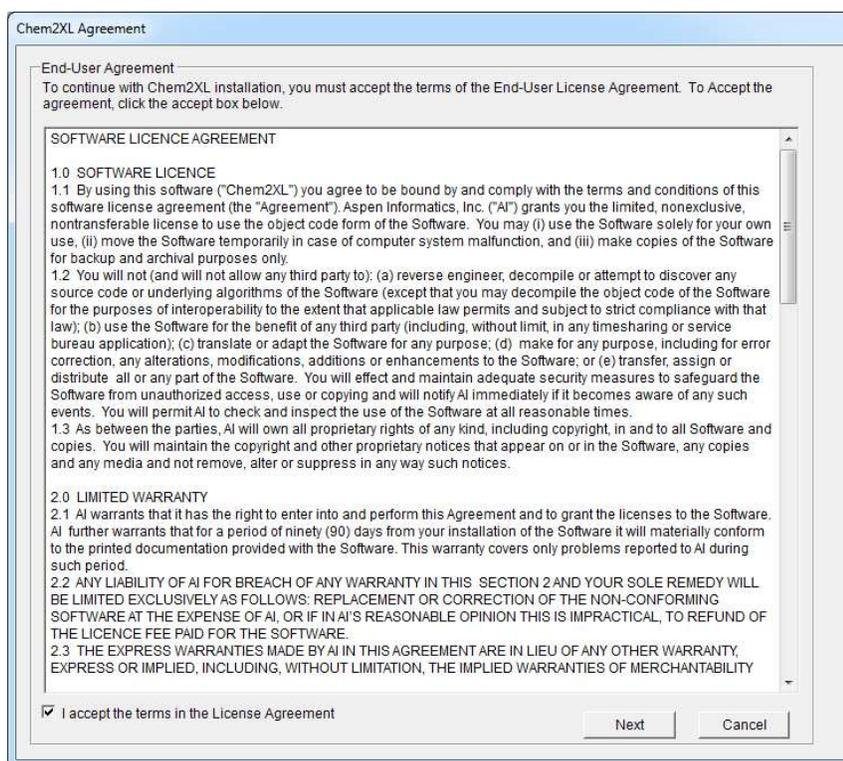

Figure 1.3 Chem2XL license agreement acceptance
- Acceptance of the Chem2XL License Agreement is necessary to proceed with the installation. Select the accept checkbox and click Next if you agree to the license (see Figure 1.3). If you do not agree to the license press Cancel to exit.